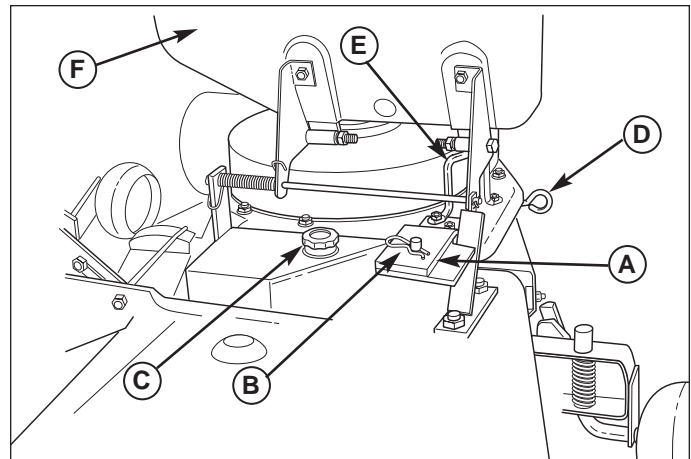

Figure 9. Mount/Remove Turbo
7. Make sure that deflector rests on upstop (D, Figure 9) and does not contact the turbo housing. If deflector contacts housing, use washer(s) as shims under the upstop legs to increase clearance.
2. Unscrew the belt cover knob (C, Figure 9) and open the cover.
3. Move the idler release lever (D, Figure 9) to release tension on the drive belt and remove the belt from the arbor pulley.
4. Remove the hairpin clip (B, Figure 9) and remove the turbo assembly.
The upstop (E, Figure 9) prevents the deflector (F) from contacting the top of the turbo. If the upstop is not providing sufficient clearance, shim the upstop with washers until the deflector does not contact the turbo.